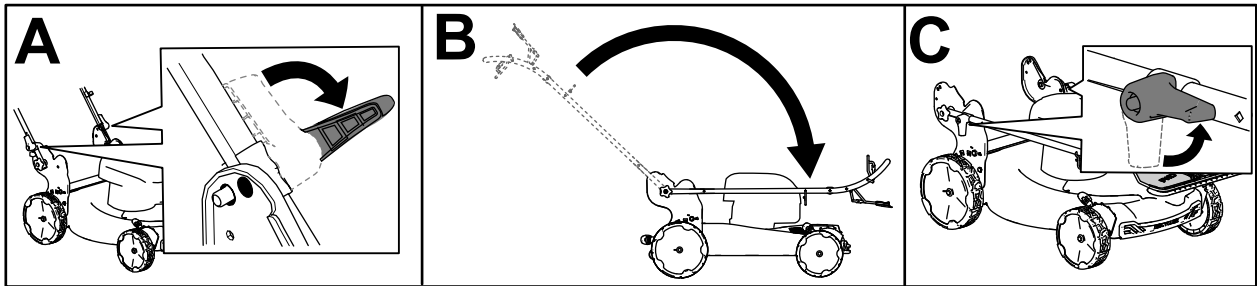

Figure 14
2. Disengage the handle locks until you can move the upper handle freely (A of Figure 14).
3. Fold the handle forward and engage the handle locks (B and C of Figure 14).